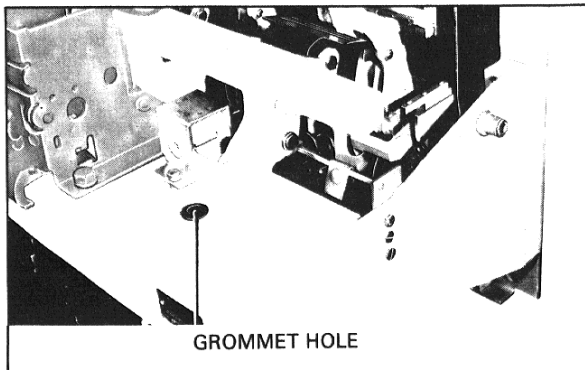

Fig. 10 Location of Grommet for Harness DB-75/100
3. Place rubber grommet in .781 dia. hole in breaker platform, hole is located to the left of the actuator. See Fig. 10.